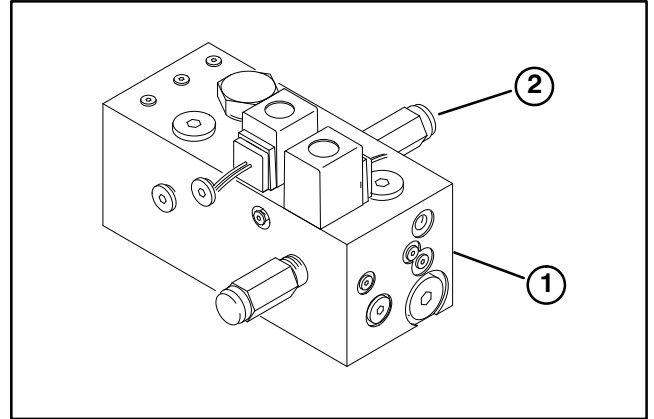

Figure 9
ADJUST REEL CIRCUIT RELIEF VALVE (Fig. 9)
(Fig. 9)
1. On rear side of manifold, remove cap from end of relief cartridge (Fig. 9).